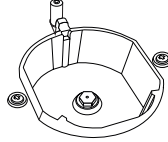
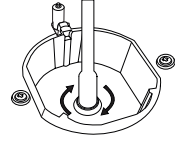

Figure 3
Figure 4
2. Please remove nozzle (figure 3) from burner with special nozzle driver and install new nozzle. (figure 4)